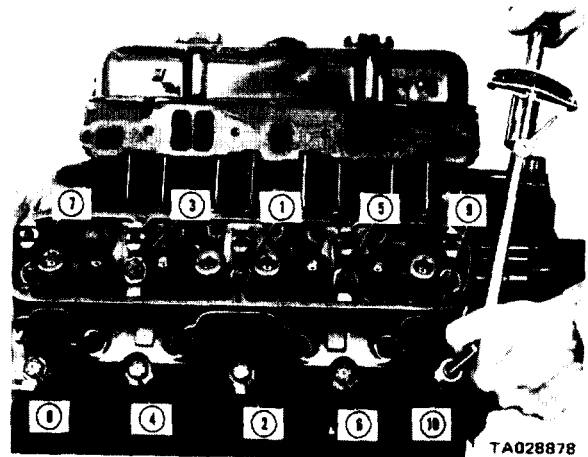

Figure 3-5. Cylinder Head Tightening Sequence.
- (1) Clean all head gasket surfaces. Remove all burrs.
- (2) Inspect all surfaces for flatness with a straightedge. Maximum warnage is 0.009 inch per foot.
(4) Carefully position the cylinder heads on the engine block.
(5) Install the cylinder head bolts, Tighten them to 50 ft-lbs in the sequence shown in figure 3-5. Then, repeating the sequence, tighten the head bolts to 95 ft-lbs.